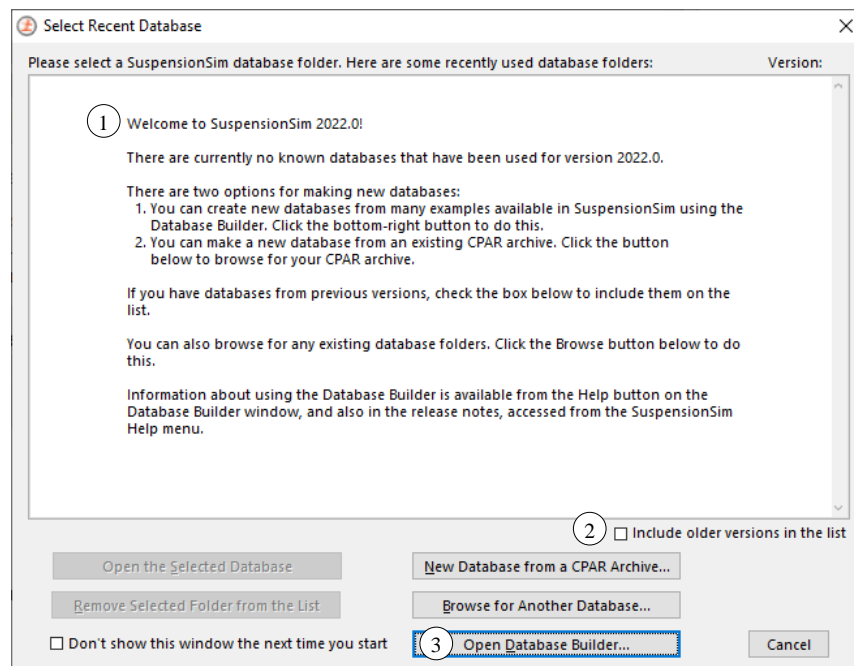
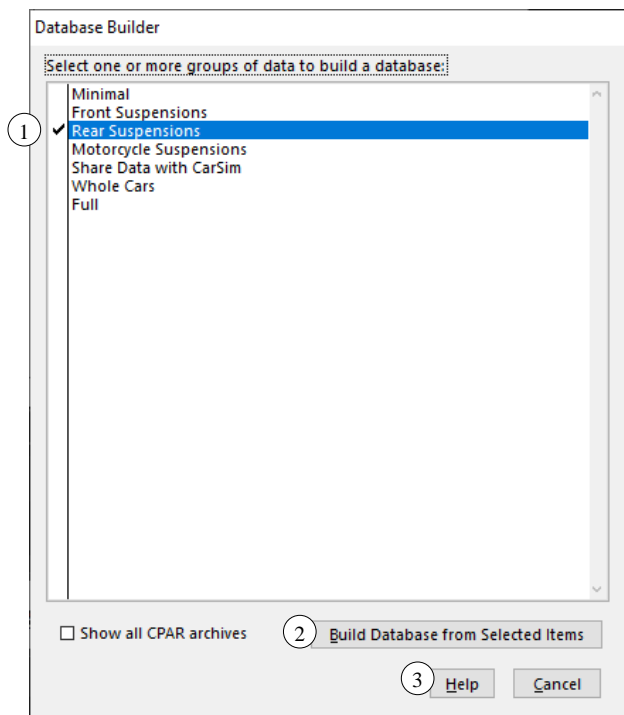

Figure 1. Select Recent Database window in new version of SuspensionSim.
Figure 2. Database Builder window showing only predefined database options.
When opening recent versions of SuspensionSim, a window appears listing database folders that are known for the current version. This window, Figure 1, has been extended for 2022.0, providing access to a new tool: the Database Builder.
To access examples for 2022.0 when you start SuspensionSim, click the button **Open Database Builder** (3), Figure 1, to bring up the Database Builder, Figure 2. When a group of data is selected (1), the button **Build Database from Selected Items** (2) becomes active. The **Help** button (3) opens a PDF document that describes the options. (You can also find this document in the **Help** menu under the **Release Notes** submenu, if you have a database open already.)
Figure 2 shows that SuspensionSim 2022.0 provides seven predefined database options. Table 1 provides a little more information about these options.